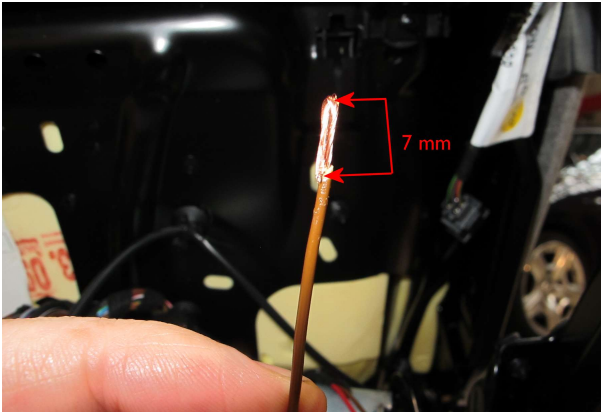

Figure 18
- Fold the conductor of all cut ends to produce a 7mm length (Figure 18)